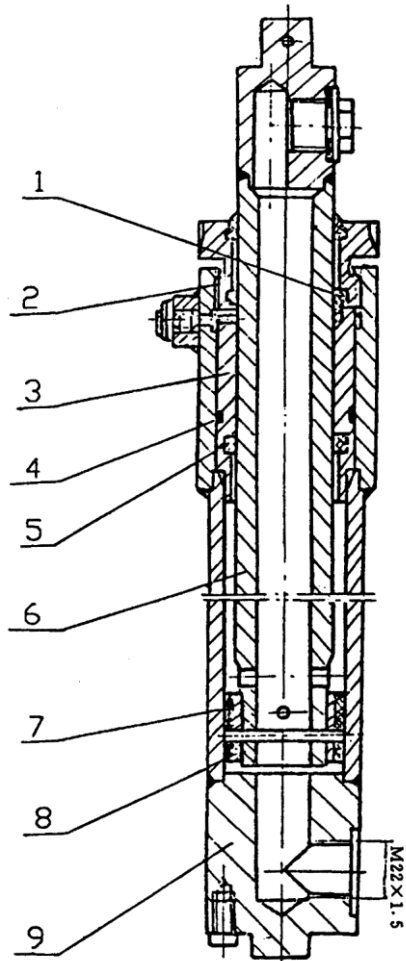
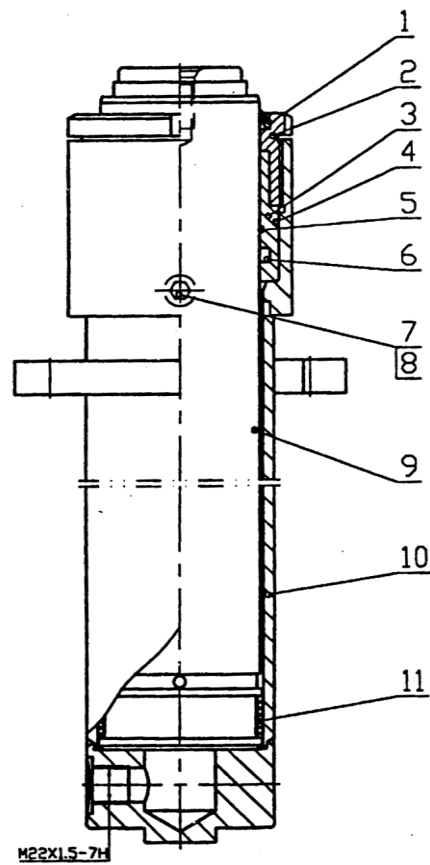

Figure 10-7 Lifting cylinder (left cylinder)
Figure 10-8 Lifting the cylinder freely
- 1) See Figure 10-7 and Figure 10-8 for the structure of a forklift truck with more than 3 tons.